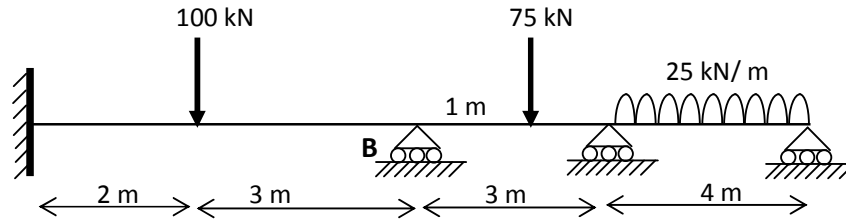

Fig.2
5. Analyse the beam shown in the Fig.2 , if the support **B** sinks by 10 mm. Use moment distribution method. Adopt $I = 125 \times 10^6 \text{ mm}^4$ and $E = 2 \times 10^5 \text{ N/mm}^2$.